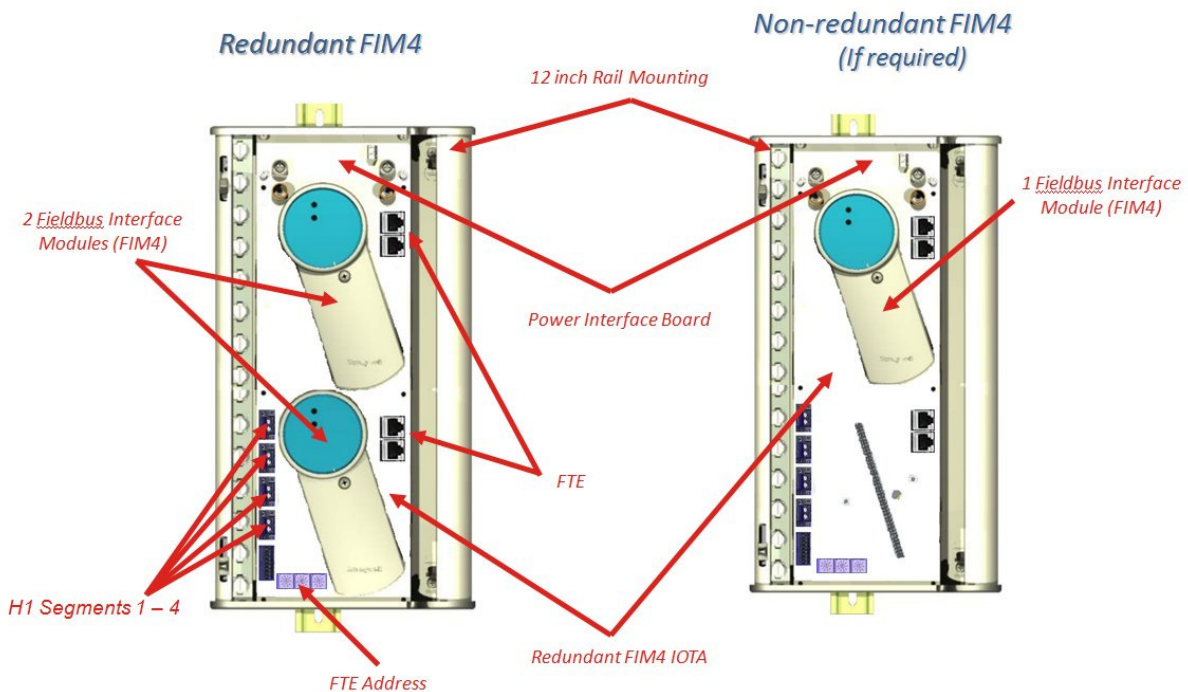

Figure 1: Series 8 FIM4 Kit types and configurations (redundant and non-redundant)
As Figure 1 shows FIM4 module is mounted to a FIM4 IOTA. The FIM4 IOTA is 12 inches long and install on a din rail case. Redundant kit provide two FIM4 modules on IOTA, non-redudant kit use one FIM4 module on it.
Figure 1 also shows the various connection points. Note that 24 Vdc (to power the modules) is provided from the Power Control module (PartNumber: 51307038-100). There are also FTE (green & yellow) connectors for each FIM4 module. The FIM4 FTE (IP) index address is set using the rotary switches on the IOTA. This represents the last octet of the four octets that make up the complete FTE IP address. However, you can implement conditioners from other 3rd party vendors and hard wire the conditioners using standard FF H1 practices. Note that all power conditioners and the H1 network are isolated from the Series 8 power system.